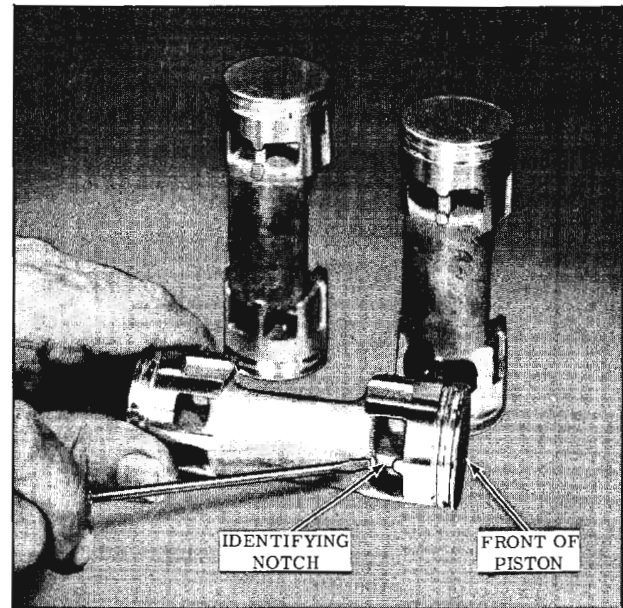

Fig. 15-75 Piston Identification
6. Place a zero shoe over each ball in the front end of the piston. The front end of the piston has an identifying notch in the casting web, (Fig. 15-75)